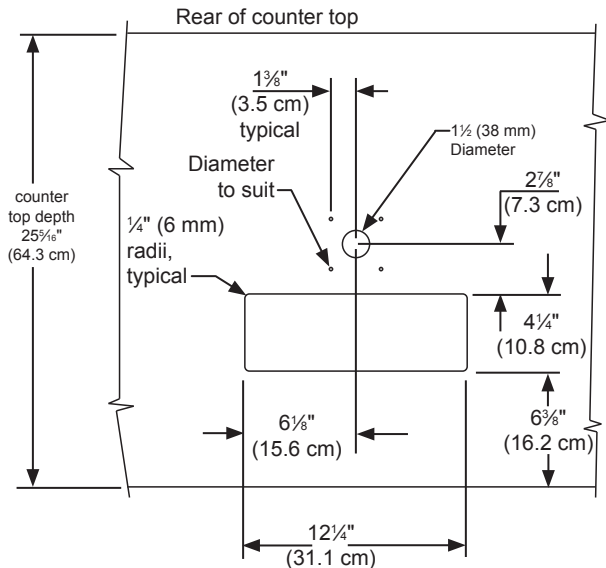

Figure 37
The cutout dimensions shown in Figure 37 are based on a 25 $\frac{5}{16}$ " (64.3 cm) deep counter top. Your counter top may be different than this and require other front to back dimensioning. Refer to the product dimensions on pages 8 and 9 when determining the required dimensions.
- If you are installing your keg refrigerator under a counter you will need to drill 5 holes in the counter top to mount the tower. The first hole is a 1 $\frac{1}{2}$ " diameter hole located at the center of the tower for the beer line, locate approximately 13 $\frac{1}{2}$ " (34.3 cm) from the front edge of the counter top (based on a counter top depth of 25 $\frac{5}{16}$ "). Next drill the 4 tower mounting holes per the dimensions in Figure 37. The hole diameter is dependent on the counter top material and if screw anchors are required. The screws supplied are in the literature pack and are a #10 x 1" type AB stainless steel screw. Mark and cut the rectangular cutout for the drain sump. After the holes are drilled and the keg refrigerator is in place under the counter top feed the beer line through the tower gasket, the 1 $\frac{1}{2}$ " hole in the counter top and the hole in the top of the keg refrigerator. Mount the tower to the counter top with the 4 screws provided. Place the counter top drain sump, from the literature pack, in the rectangular hole with the radius cutout to the rear around the tower and place the grate in the sump.